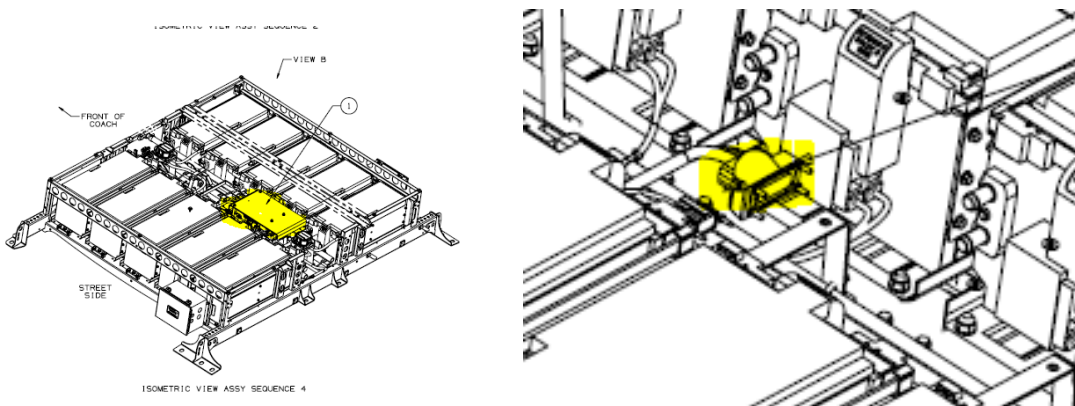

Figure 20: Roof ESS J1 Connector Location Example
6.2 Ensure the J1 to BDU connections are seated properly. Refer to Figure 20 for J1-BDU connector location examples.